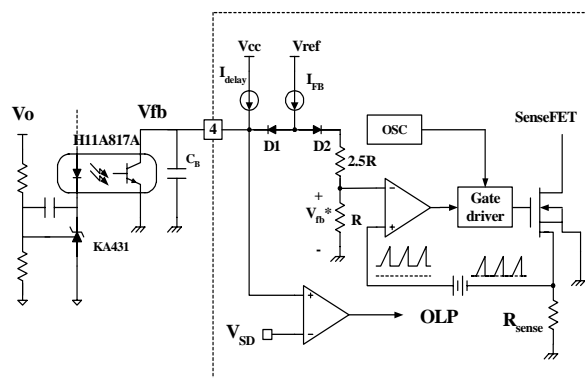

Figure 5. Pulse width modulation (PWM) circuit
2. Feedback Control : FSDM07652RB employs current mode control, as shown in Figure 5. An opto-coupler (such as the H11A817A) and shunt regulator (such as the KA431) are typically used to implement the feedback network. Comparing the feedback voltage with the voltage across the Rsense resistor plus an offset voltage makes it possible to control the switching duty cycle. When the reference pin voltage of the KA431 exceeds the internal reference voltage of 2.5V, the H11A817A LED current increases, thus pulling down the feedback voltage and reducing the duty cycle. This event typically happens when the input voltage is increased or the output load is decreased.
2.1 Pulse-by-pulse current limit: Because current mode control is employed, the peak current through the Sense FET is limited by the inverting input of PWM comparator (V_{fb}^*) as shown in Figure 5. Assuming that the 0.9mA current source flows only through the internal resistor ($2.5R + R = 2.8\text{ k}\Omega$), the cathode voltage of diode D2 is about 2.5V. Since D1 is blocked when the feedback voltage (V_{fb}) exceeds 2.5V, the maximum voltage of the cathode of D2 is clamped at this voltage, thus clamping V_{fb}^* . Therefore, the peak value of the current through the Sense FET is limited.